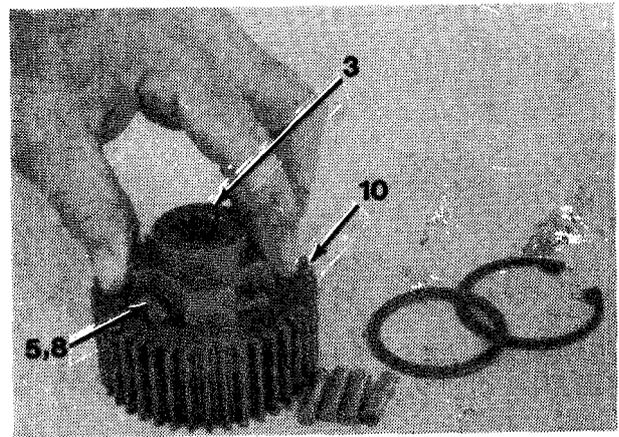

Figure 16-3
2. Install brake cam (3) inside brake race (10, Figure 16-3) with centerline of rotor spring holes level with top surface of brake race (10). Use a spacer to hold brake cam (3) in position.
3. Install four rotor plungers (8) inside four rotor springs (5).